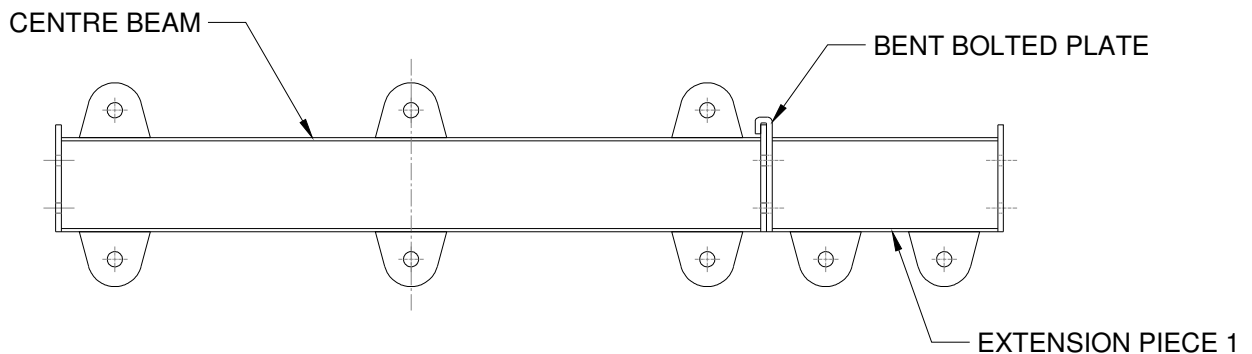
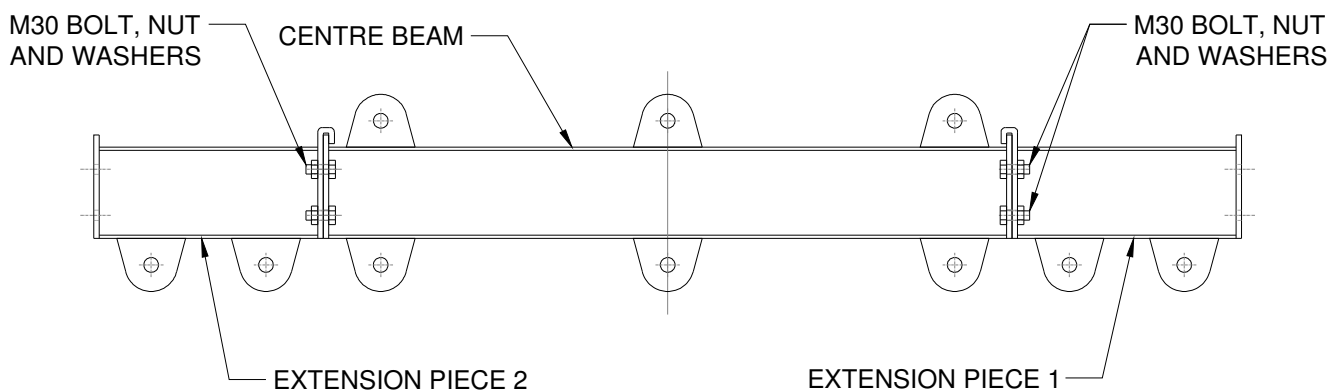

Figure 1 – Extension Piece 1 placed in position
Figure 2 – Extension Pieces 1 and 2 secured to Centre Beam
2. Take the first extension piece and slide into place such that the bolting plate of the centre beam is within the bent bolted plate of the extension piece – see Figure 1.
3. Take four (4) of the M30 bolts and nuts as well as eight (8) washers and fasten the extension piece to the centre beam. All bolts are to be tightened IAW the manufacturers specifications.
4. Take the second extension piece and slide into place as per Step 2. Fasten the extension piece as per Step 3 – see Figure 2.